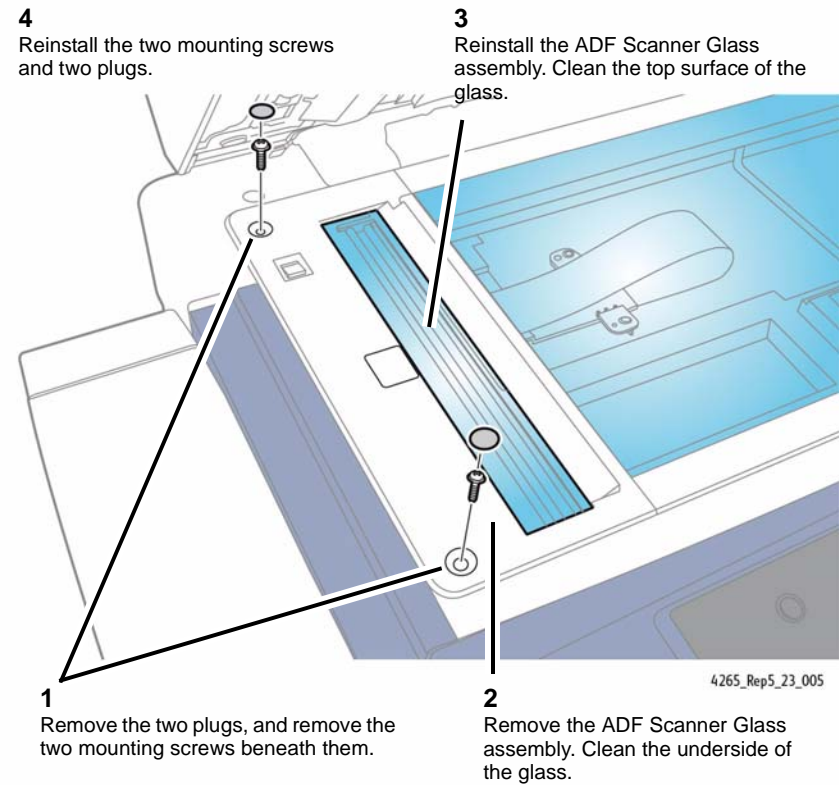

Figure 5 Cleaning the ADF Scanner Glass
10. Clean the ADF Scanner Glass (Figure 5).